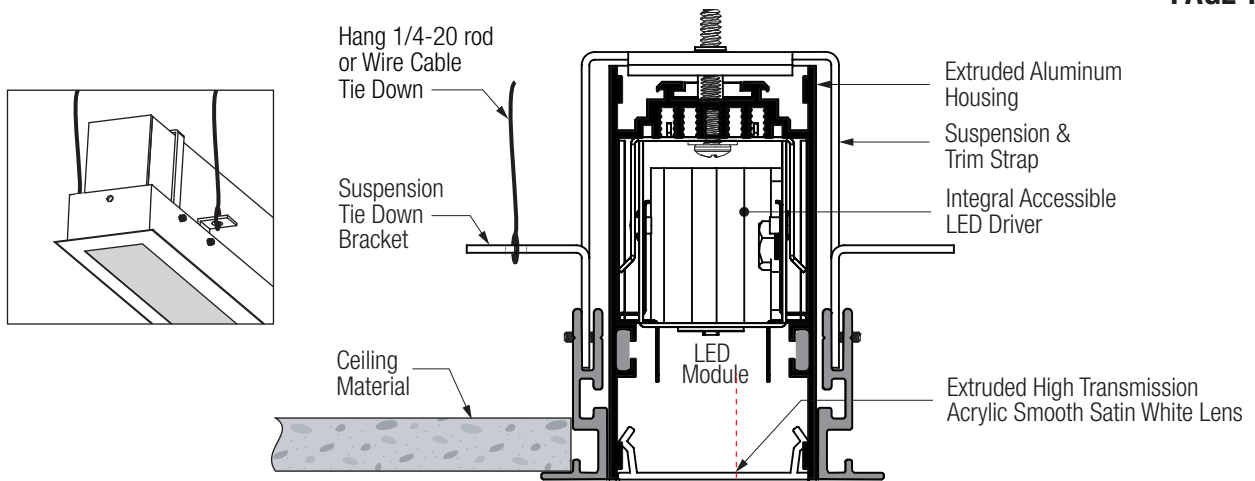

FIGURE 1
2. When SETTING HANGER ASSEMBLY be sure that the top of the finished trim sets to the bottom of the finished ceiling height. *See Fig 1*
1. SLIDE FIXTURE HOUSING INTO HANGER ASSEMBLY and fasten into place using hardware provided. Pre-set mounting locations match housing fastener strap. *See Fig 1.*